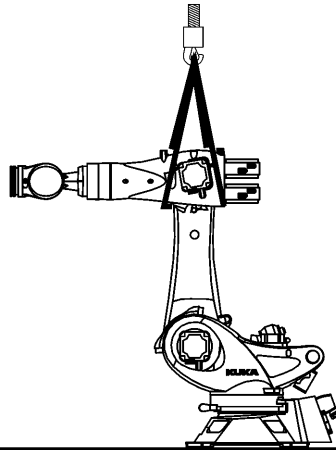

Fig. 11-31: Securing the link arm
4. Secure link arm using a rope sling and crane (>>> Fig. 11-31).